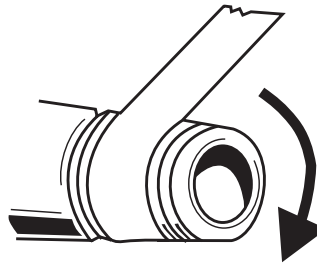

Figure 5-4: Applying Teflon Tape
2. **Apply thread sealant to the male threads.** Apply two to three layers of Teflon tape to the male threads starting two threads back from the end (Figure 5-4). Wrap the Teflon tape clockwise (as viewed from thread end of fitting) to prevent unraveling when installing the fitting.